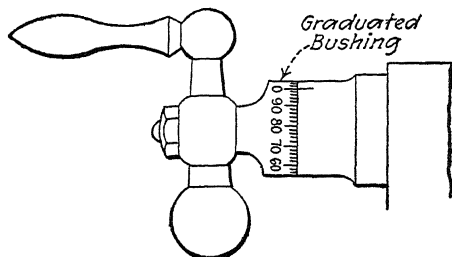

FIG. 91.—In most machines the graduated bushing may be loosened and then set at zero or elsewhere as desired.
**103. Graduations on Cross-feed Screw.**—Most lathes are equipped with a graduated bushing on the cross-feed screw which will show in thousandths of an inch the movement of the cross slide. For example, the cross-feed screw in Fig. 91 has 10 threads per inch; one complete turn of the handle advances the cross slide  $\frac{1}{10}$  in. The bushing is graduated into 100 equal divisions, therefore a movement of one of these divisions past the line on the nut (shown in line with the 0 graduation on the bushing) will indicate a movement of the cross slide of  $\frac{1}{100}$  of